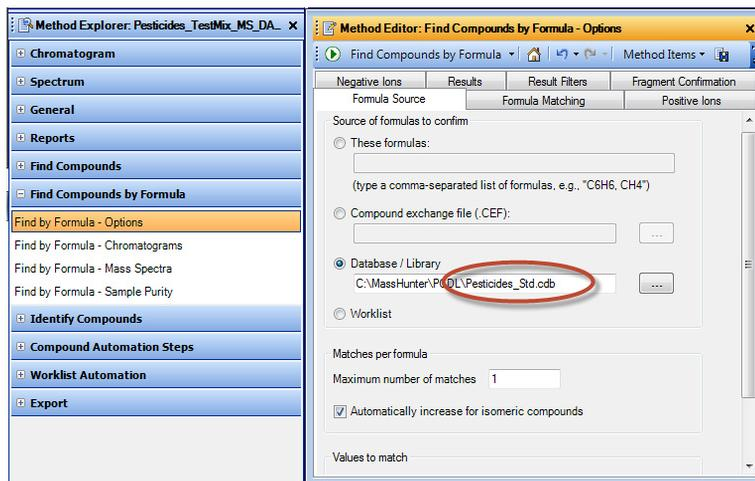

Figure 2 Find by Formula Method Editor Options (Custom Database)
- b** Select the custom database **Pesticides_Std.cdb**. See Figure 2.